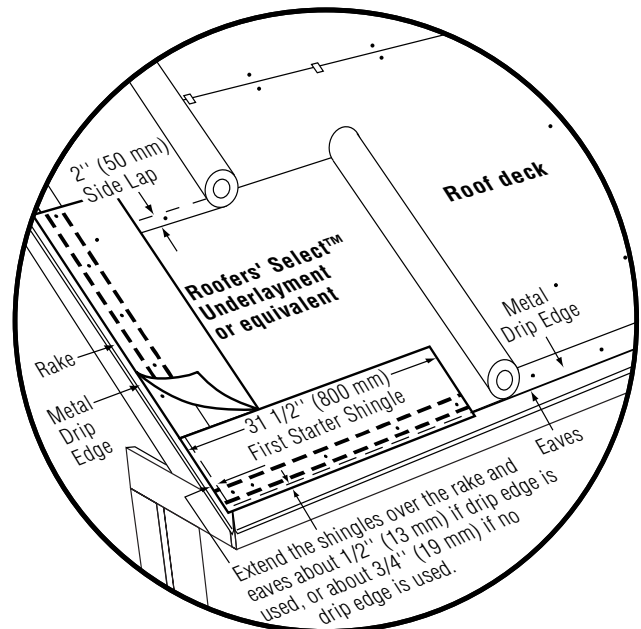

Figure 14-12: Standard slope underlayment and starter drip edge details.
**1ST COURSE:** Apply a full Hatteras shingle at the lower left corner of the roof. Make the tabs flush with the starter-course shingle at the eaves and rakes (Figure 14-12).